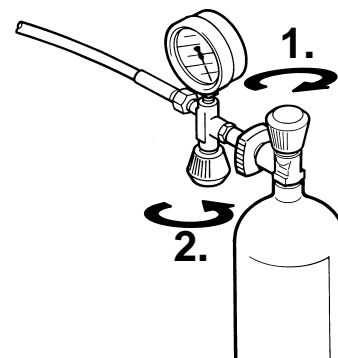

Fig. 15 Removing air bottle
8. **Close bottle valve first (1, Fig. 15), then filling valve** by returning handle to closed position (2). Remove compressed air bottle.